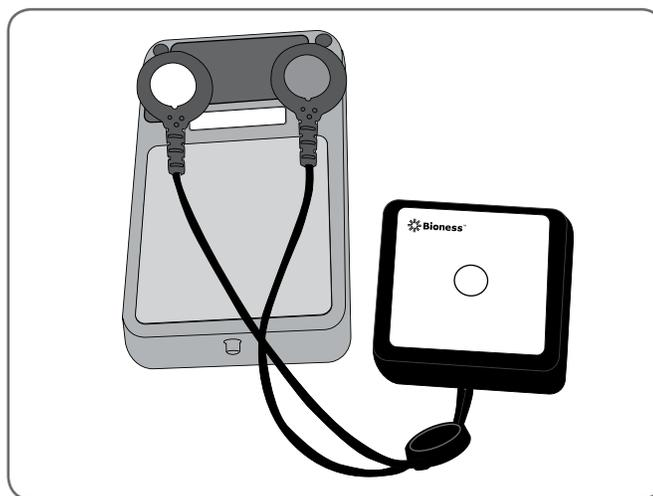

Figure 15-4: L300 Tester connected to the RF Stim Unit.
2. Connect the L300 Tester to the electrical sockets on the back of the RF Stim Unit. See Figure 15-4.